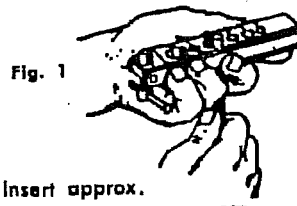

Fig. 1
1. Loosen clamping lever and swing clamp into right angle position to sliding segments in die holder. This will permit their separation. (See Fig. 1)